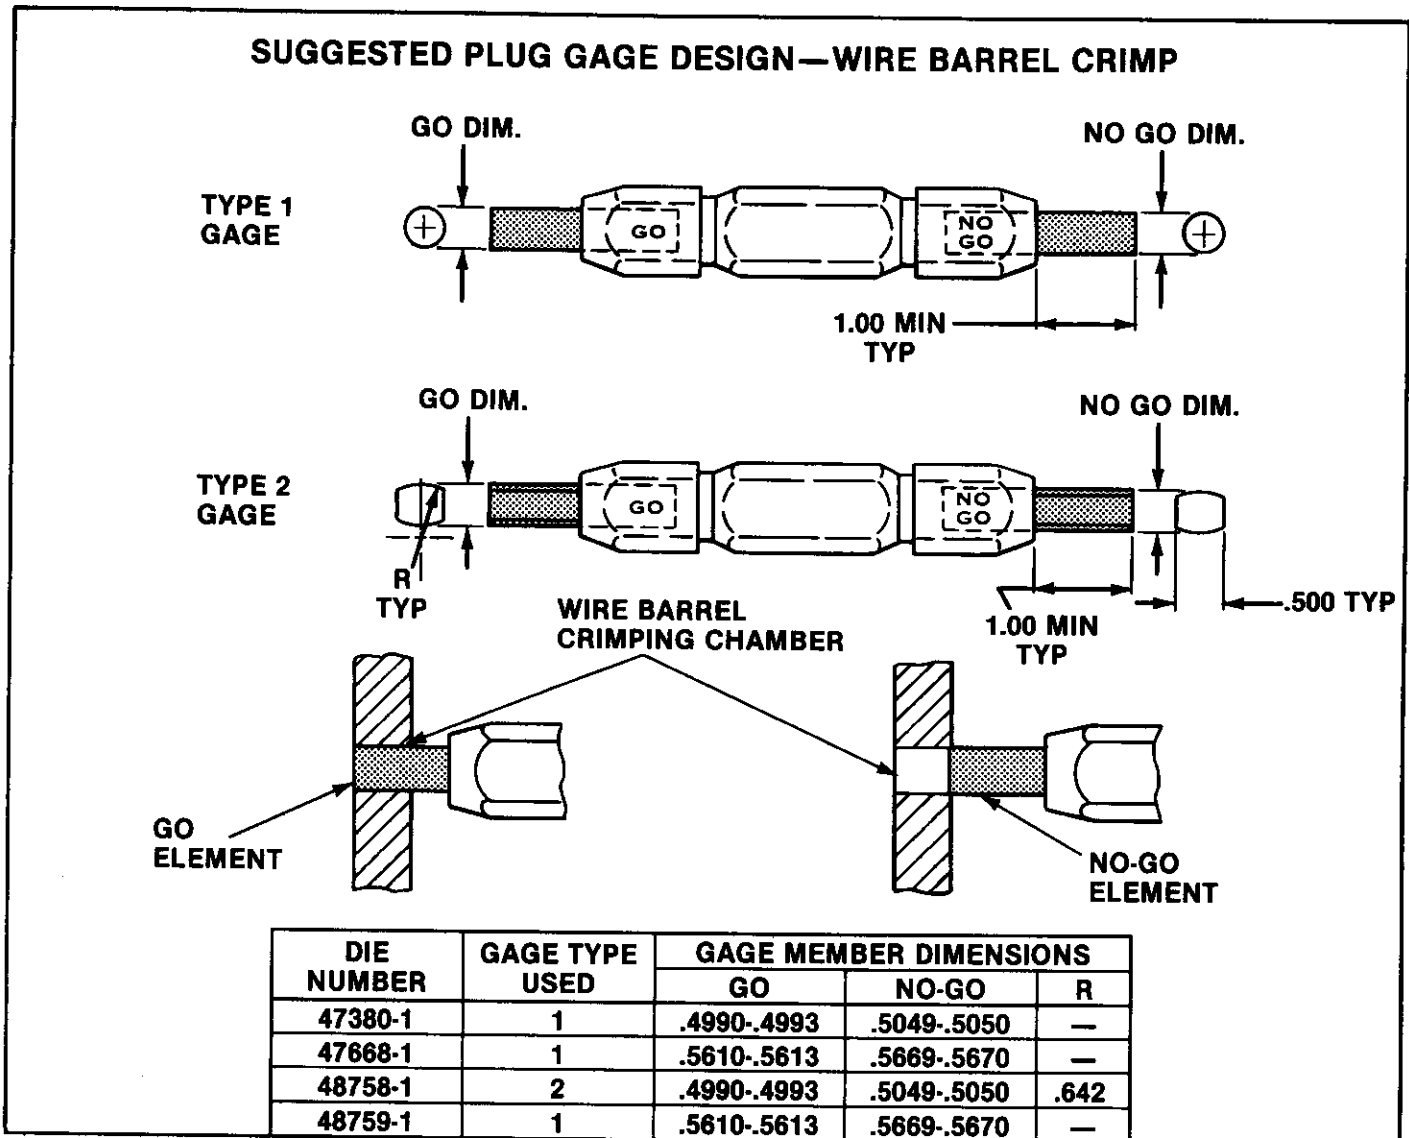

Fig. II-2
The inspection of each die assembly requires the use of a GO NO-GO gage, shown in Figure II-2. The gage is used to check the wire barrel crimping
3. Align the GO element with the wire barrel crimping chamber. Push the element straight into the crimping chamber. The GO element must pass completely through the crimping chamber, as shown in Figure II-2.
4. Now align the NO-GO element and try to insert it straight into the same crimping chamber. The NO-GO element may start entry but must not pass completely through as shown in Figure II-2.